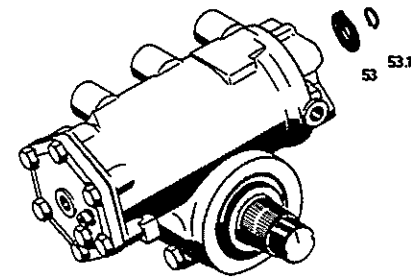

Fig.56
Slip protecting cap (53) onto the worm stub and fit retaining ring (53.1) (*Fig.56*).